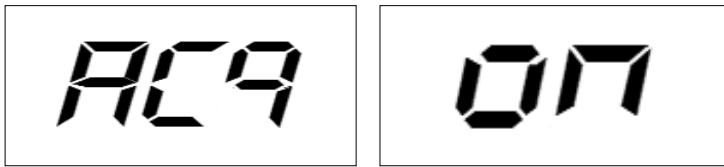

Fig. F3.10 - Message "Acquisition Function On"
- 2) Set the acquisition function by pressing [P2] repeatedly until ACq is displayed in the left window, as shown in Fig. F3.10. This mode is selected by default at startup.